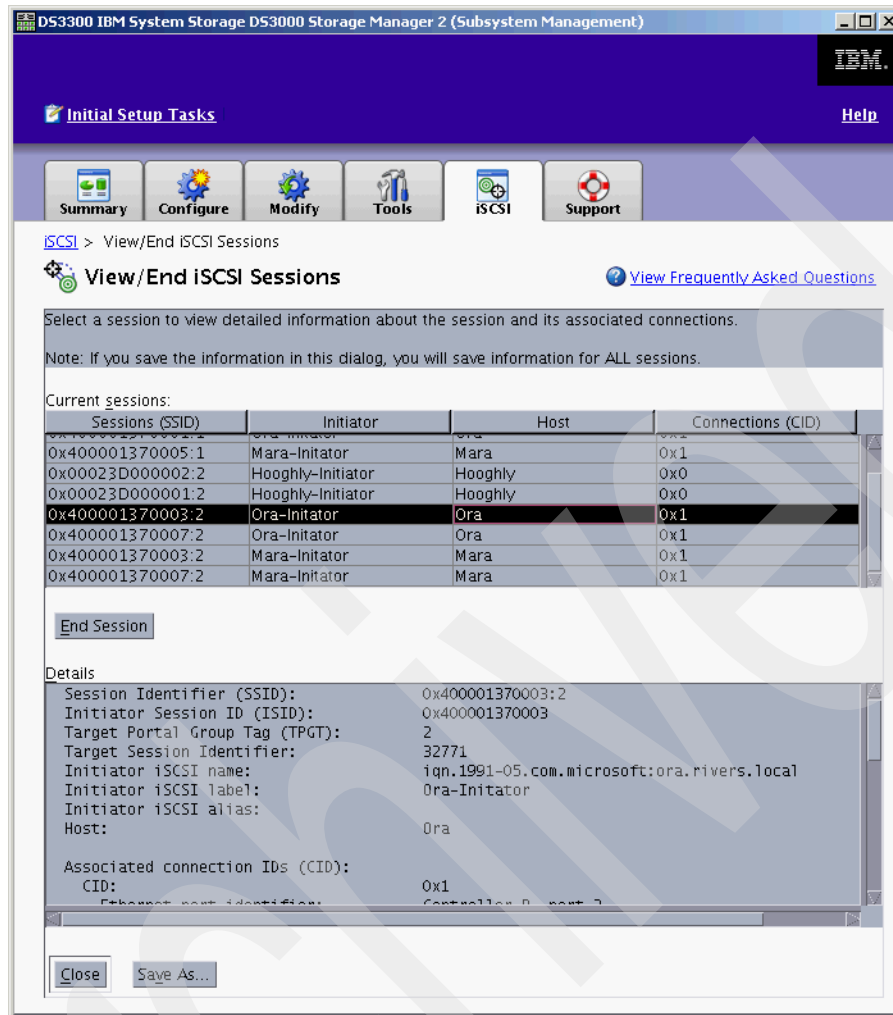

Figure 13-19 View sessions
2. Select a session to see the details in the lower pan, as shown in Figure 13-19.
6. Example 13-1 on page 297 shows the complete session information for the selected initiator in Figure 13-19. This output can help verify that the host setup was done correctly.